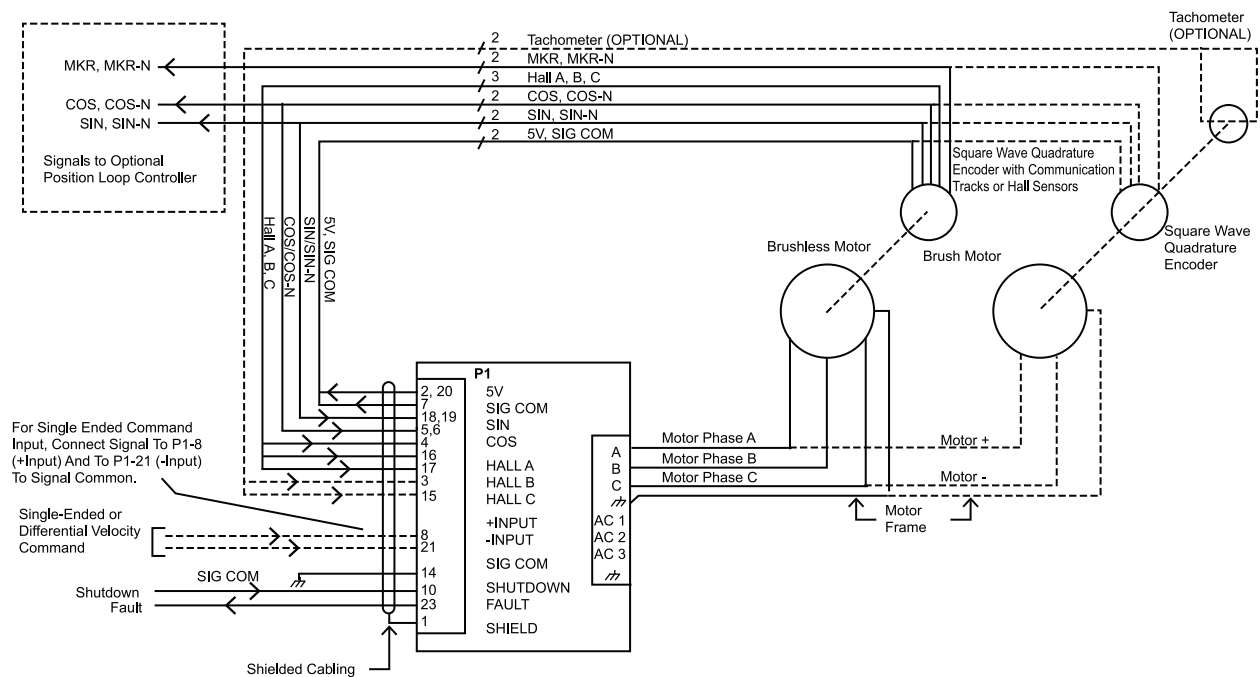

Figure 2-5: Velocity Command Configuration
In the velocity command configuration, the speed of the motor is controlled by the amplifier. A feedback signal from either a DC tachometer or an incremental encoder is monitored by the amplifier. From this signal, the amplifier adjusts the velocity of the motor accordingly depending upon the velocity command from the external controller. In this configuration the amplifier closes and controls the velocity loop. Refer to Figure 2-5 for the velocity command configuration. This configuration can drive both brush and brushless DC motors.
For this mode, a velocity feedback signal is required. This feedback signal can be derived from two sources. From an analog DC tachometer that is connected to the **+TACH** pin or from an incremental encoder that is connected to the sine and cosine pins (refer to Figure 2-5). To setup the pre-amplifier circuit for use in the velocity command mode, configure the BA amplifier as follows:
**NOTE:** If an Aerotech brushless motor is used with the BA amplifier, motor phase and HALL connections can be easily determined by referring to the system interconnection drawings in Figure 2-5, Figure 2-6, and Figure 2-7. Also, refer to the figures in Cable Drawings.